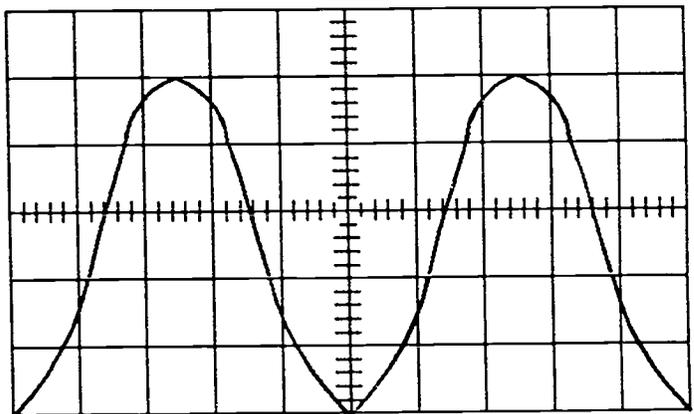

Figure M-8-12
2. Find the peak-to-peak voltage, period, and frequency of the sine waveform, given the control settings shown in Figure M-8-12, "Oscilloscope Sine Wave."